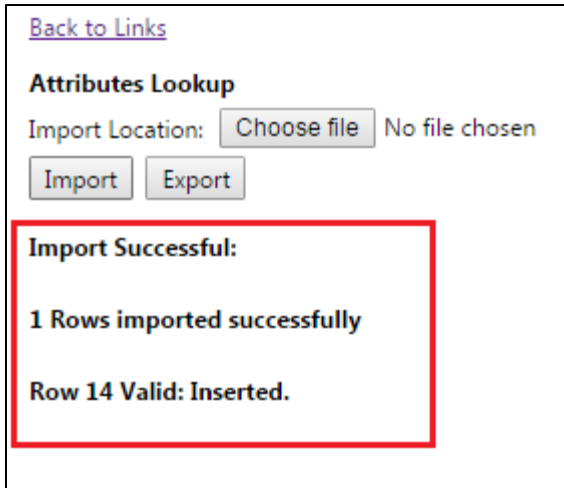

Figure 8.
- 6) The next screen will tell you if the import was successful. See figure 8.